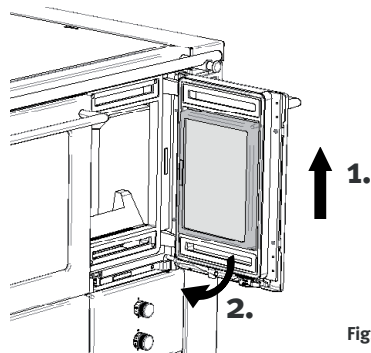

Fig. 76
- Lift the window glazing unit up and then carefully remove it downwards (Fig. 76).